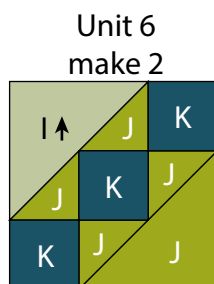

Fig. 25
13. Follow Figure 25 and sew together (1) $10 \frac{7}{8}$ " Fabric I triangle, (4) $5 \frac{7}{8}$ " Fabric J triangles, (3) $5 \frac{1}{2}$ " Fabric K squares and (1) $10 \frac{7}{8}$ " Fabric J triangle to make (1) $15 \frac{1}{2}$ " Unit 6 square. Repeat to make a second Unit 6 square.